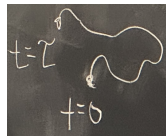

Figure 3.6: A diffusing molecule.
- This is a molecular view of diffusion, from time  $t = 0$  to time  $t = \tau$  (Figure 3.6).